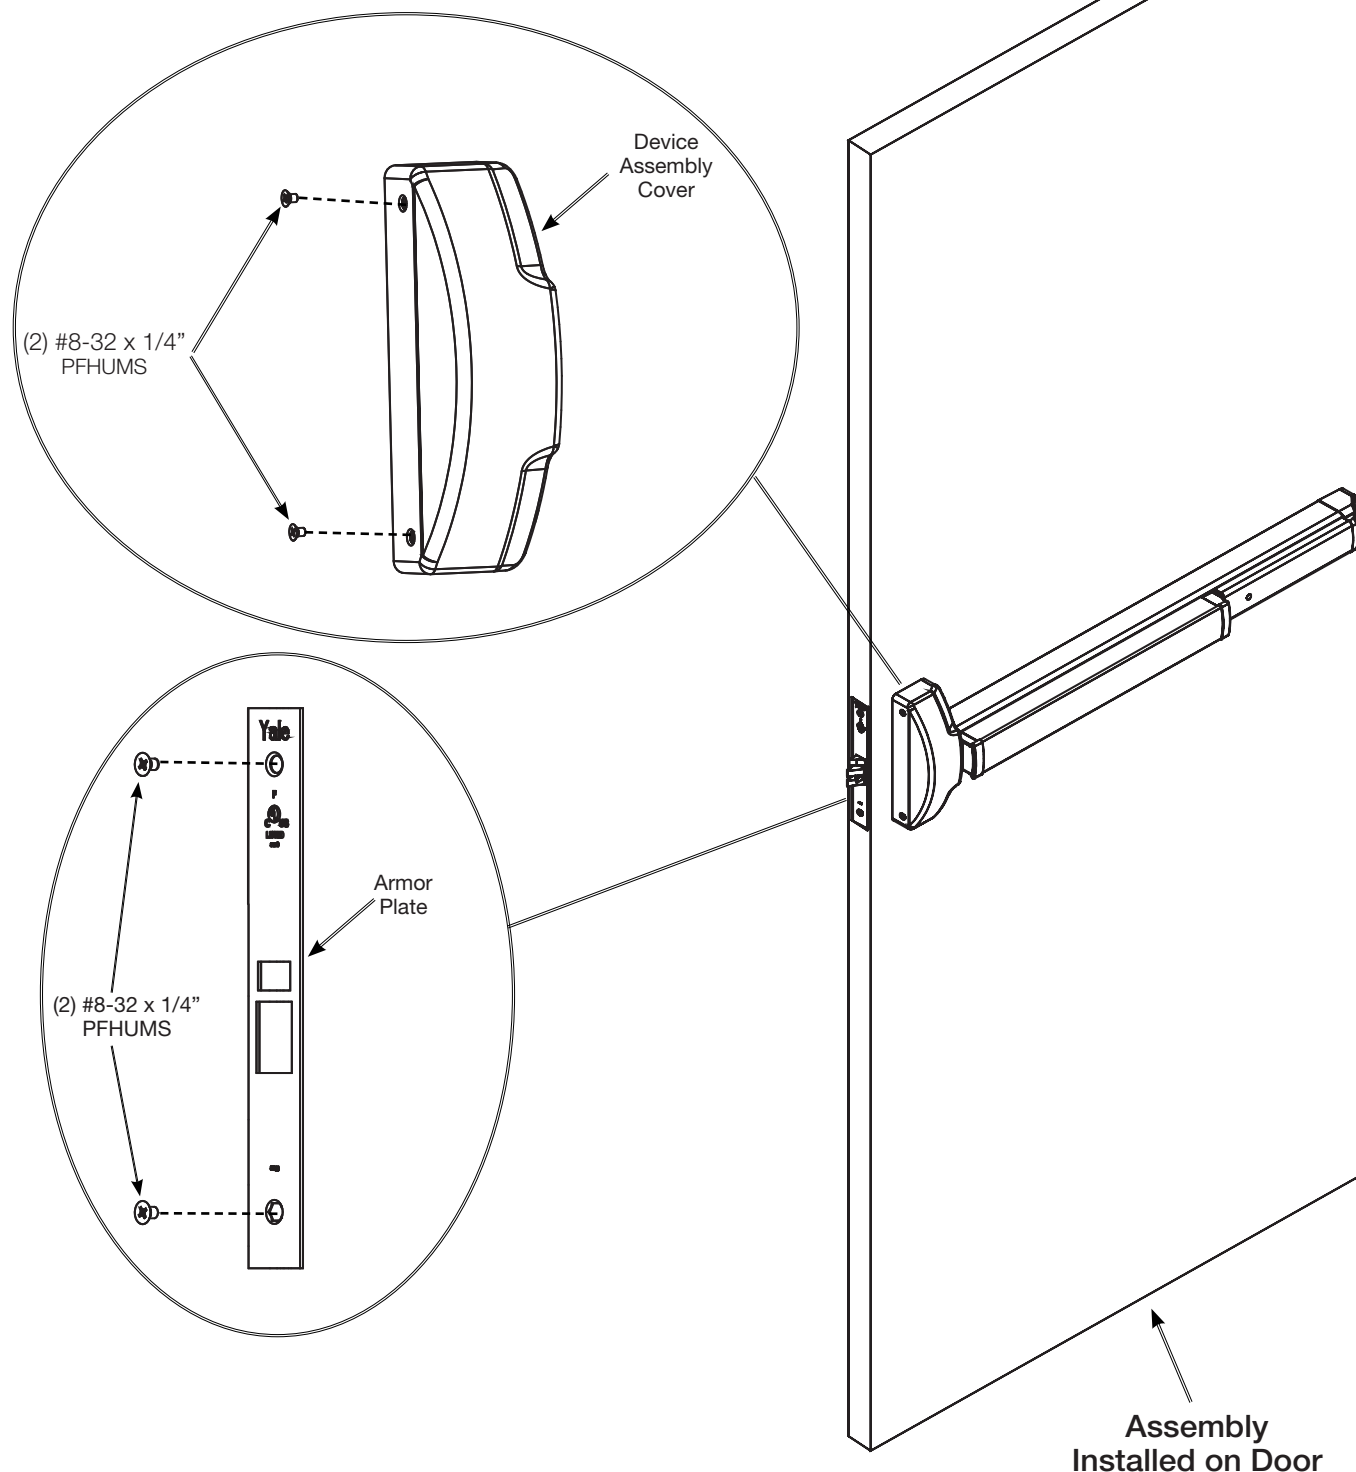

Figure 10: Device Assembly Cover Installation
1. Secure latch head cover with two (2) #8-32 x 1/4" (6.35mm) PFHUMS (Figure 10).
2. Install armor plate with two (2) #8-32 x 1/4" (6.35mm) PFHUMS to lockbody.